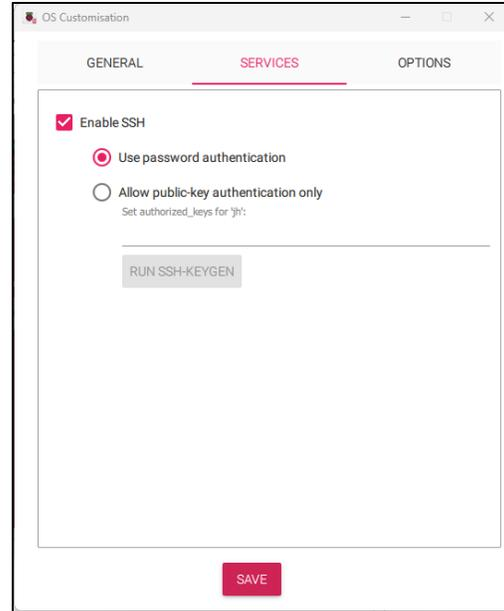

Figure 84 Services Settings
8. In **Services**, enable SSH and select **Use Password Authentication** as shown in **Figure 84**.